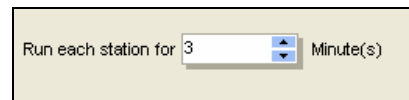

Figure 17.2.15
4. Use the **UP** and **DOWN** arrows to adjust the time for each station (Figure 17.2.15).